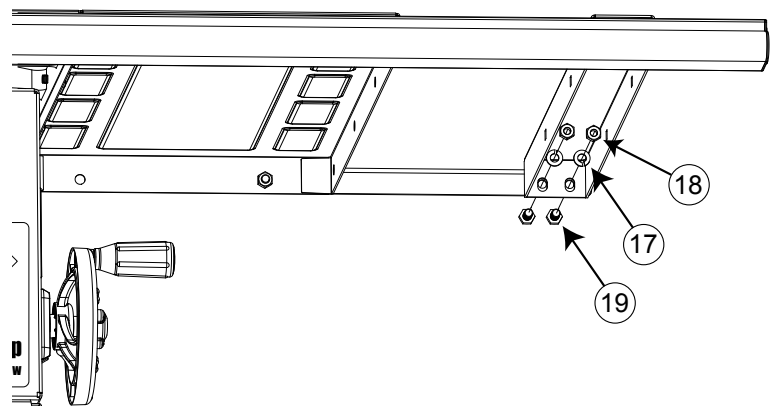

Fig. 9
- Position the material support shelf between the front rail and the right rear rail by sliding the heads of the two square head screws into the slot on the right end of the front rail until the holes in the rear of the material support shelf line up with the holes in the rear rail. Use two M8 x 16 hex screws, two M8 lock washers, and two M8 hex nuts to mount the material support shelf to the rear rail (see Fig. 9). Use a straight-edge to level the top of the material support shelf with the cast iron table top. Use two 13 mm wrenches to fully tighten the hardware that mounts the material support shelf to the rear rail. Do not tighten the hardware that mounts the material support shelf to the front rail.